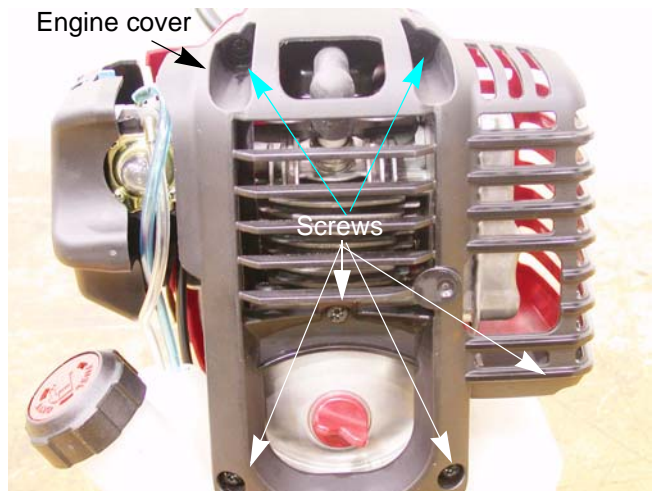

Figure 2.7
1. To clean the spark arrestor remove the engine cover using a T-20 driver. See Figure 2.7.